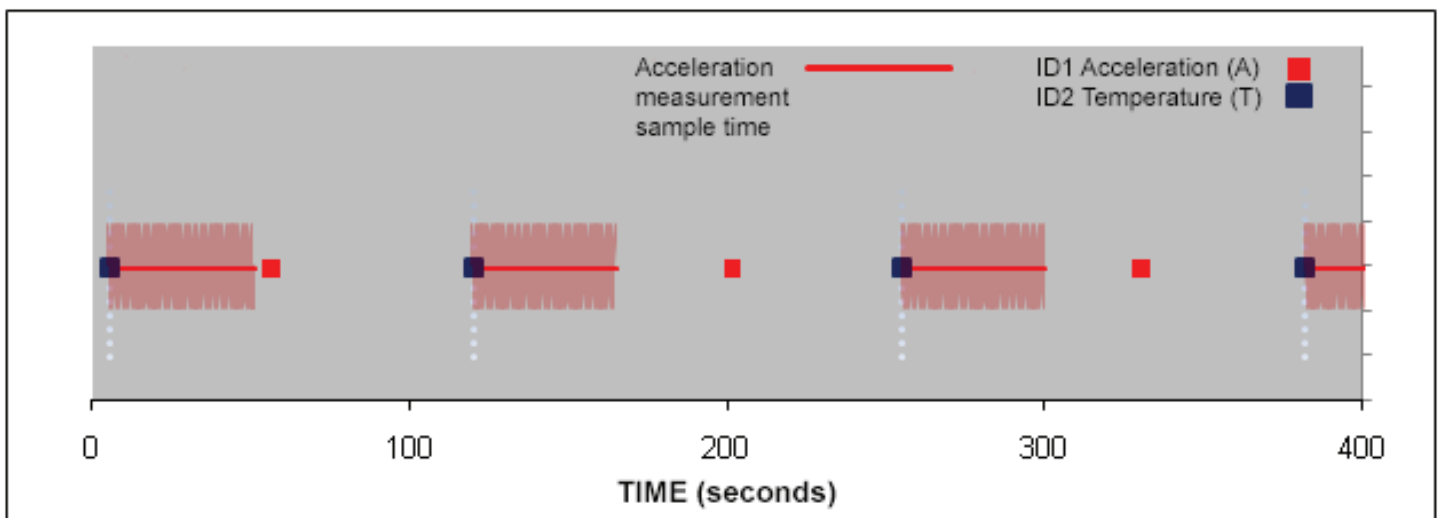

Figure 3: Example of sampling and transmission format for the V16AT. For the V16A, acceleration would be sampled for every delay cycle.
We have provided some programming flexibility in the design of this transmitter owing to the variability in swimming behavior of a wide range of species, benthic to pelagic. The programming parameters are Average Delay (sec) and the size of the acceleration sampling window (T) in seconds. The V16AT coded transmitter functions like all standard Vemco two-sensor coded transmitters. It has two coded tag IDs one for the temperature sensor and one for the accelerometer. The acceleration measurement is sampled over a period T. Figure 3 illustrates the sampling and transmission format. Immediately after the tag transmits an ID and temperature value (blue square), the tag begins the acceleration measurement (red line). After T seconds of measurement, the RMS value of acceleration is computed and stored in memory. Once the tag delay time is complete, the tag transmits the accelerometer tag ID and acceleration value (RMS of $m\ s^{-2}$) (red square). The tag then waits until the end of the next delay period and transmits the temperature value (blue square). This pattern repeats until end of life is reached.